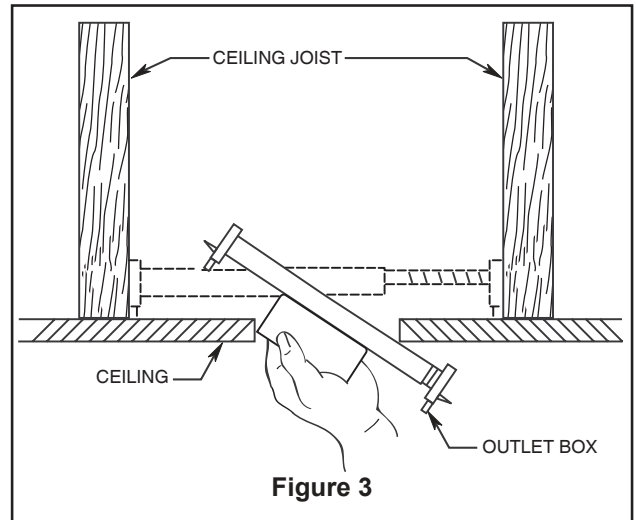
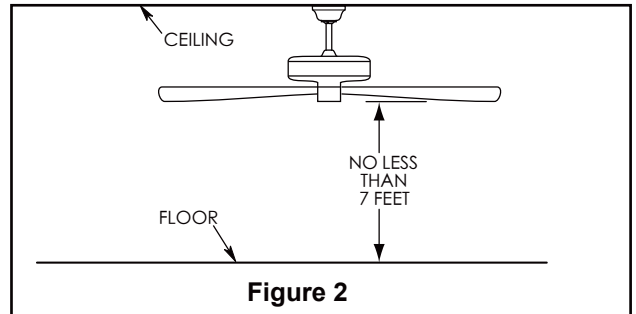

Figure 3
Figure 2
Your new ceiling fan will require a grounded electrical supply line of 120 volts AC, 60 HZ, 15 Amp Circuit. Electrical code requires use of a fan-rated outlet box to support the extra weight and motion associated with a ceiling fan. A fan-rated box will be labeled as such and typically supports up to a 70lb ceiling fan. Fan-Rated Outlet Boxes vary in ratings and design. Ensure the ratings of your ceiling fan outlet box meet the requirements for the ceiling fan being installed. Figure 1, Figure 2 and Figure 3 depicts different structural configurations that may be used for mounting the outlet box.
Deep box (Figure 2)
Deep box with brace (Figure 3)
2. Remove the six preassembled screws of the motor coupler washer from the motor assembly, then retain the screws for Step 6. (Figure 2)
3. Remove the motor coupler washer and upper housing cover from the motor assembly. (Figure 3)
2. Remove the hairpin clip and clevis pin from the bottom of the downrod. Retain the pin and clip for reinstallation in Step 4. (Figure 2)
The fan must be hung with at least 7' of clearance from floor to blades. (Figure 2)
To avoid possible electrical shock, be sure electricity is turned off at the main fuse box before wiring (Figure 2).
2. Securely attach and tighten the canopy screw cover over the shoulder screws in the hanger bracket utilizing the keyslot twist-lock feature. (Figure 2)
- 2. Remove one of the three screws in the light plate assembly and retain the screw for later. Slightly loosen the remaining two screws. Connect the 2 single pin connectors from the LED assembly to the 2 single pin connectors from motor assembly. (Figure 2)
- **2.** Restore electrical power to the outlet box by turning the electricity on at the main fuse box. (Figure 2)